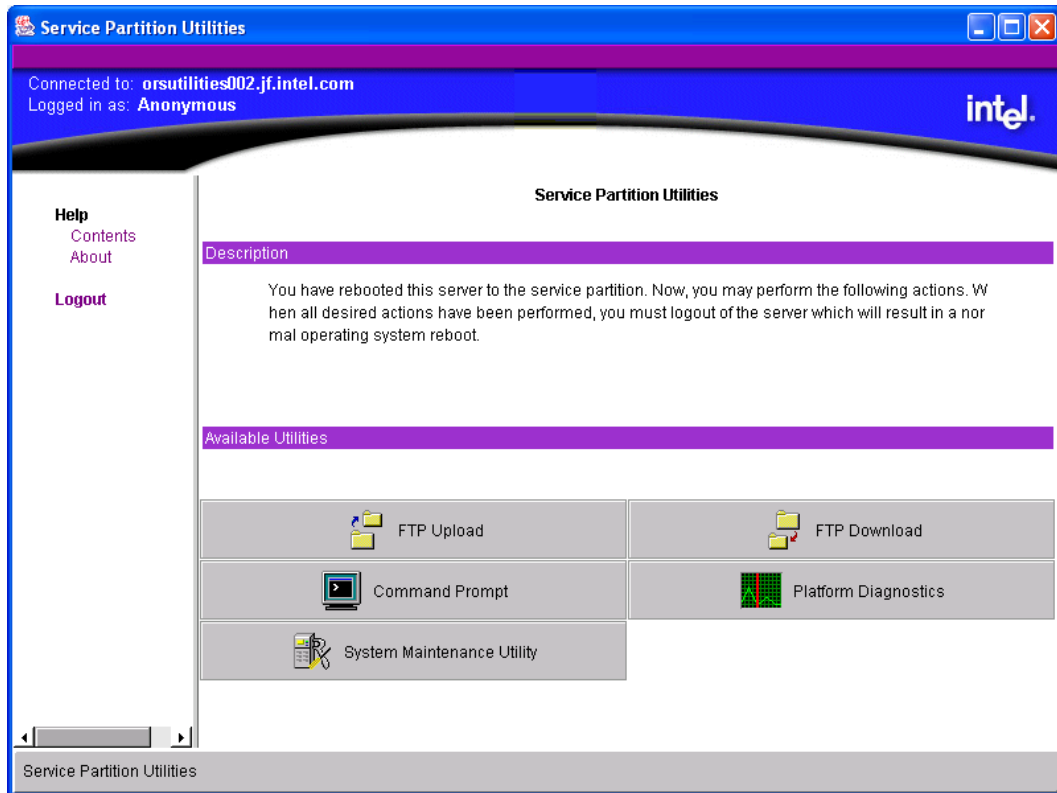

Figure 24. Service Partition Utilities
- When the server has been successfully rebooted to the service partition software, the supported service partition utilities are displayed, as shown in Figure 24. Click on **System Maintenance Utility** to launch the SMU application. ISM passes connection information to the SMU so the SMU can communicate with the target server. Up to this point, all errors are handled by the ISM software, not the SMU.